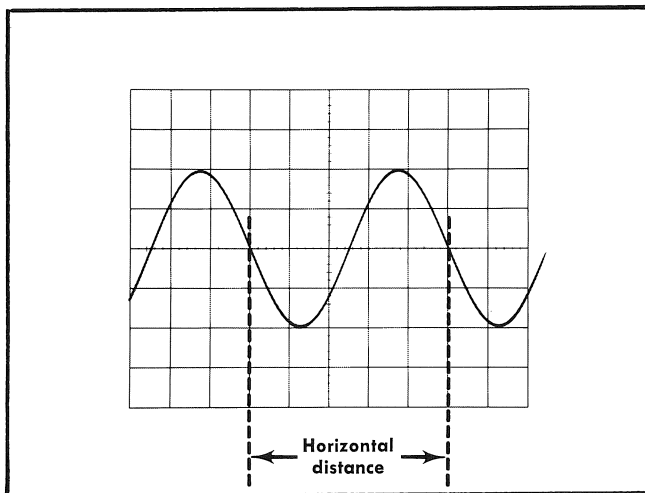

Fig. 2-16. Measuring time duration between points on a waveform.
5. Set the TIME/DIV switch to the fastest sweep rate that displays less than eight divisions between the time measurement points (see Fig. 2-16). See Horizontal Sweep Rate in this section concerning nonlinearity of first and last divisions of display.
EXAMPLE. Assume that the horizontal distance between the time measurement points is five divisions (see Fig. 2-16) and the TIME/DIV switch is set to $.1 \text{ ms}$ with the magnifier off.
EXAMPLE. The frequency of the signal shown in Fig. 2-16, which has a time duration of 0.5 milliseconds, is: